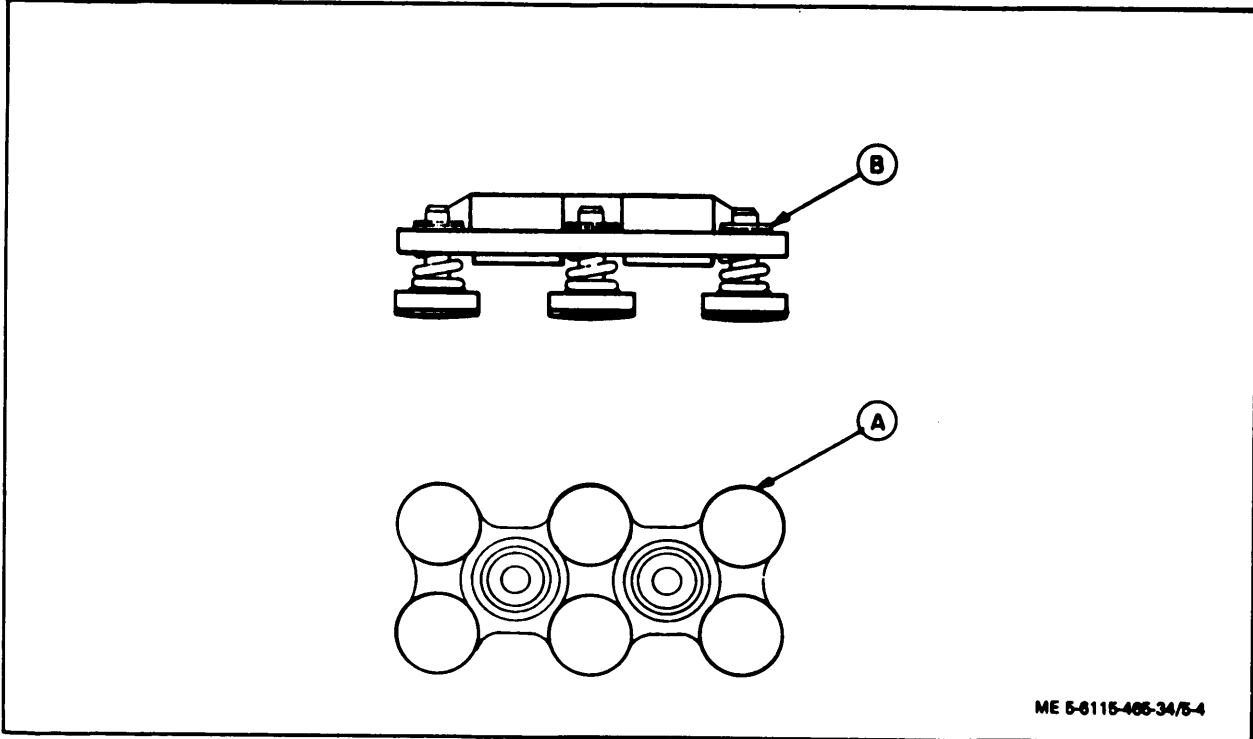

Figure 5-4. Main Contact Preload Check Points
(13) Secure contact assemblies (38) to main base (46) with flat washers (37), lockwashers (36), and nuts (35). Install terminal washers (41), lockwashers (40) and nuts (39).
(14) Install grommets (33), spacers (34), and arc chutes (32).
(15) Install shims (30 and 29), springs (28), bushings (27), and shims (26) onto bridge assemblies (25). Secure bridge assemblies to main contact operator (31) with retaining rings (24).
(16) Check preload of each contact as follows: (See figure 5-4. )